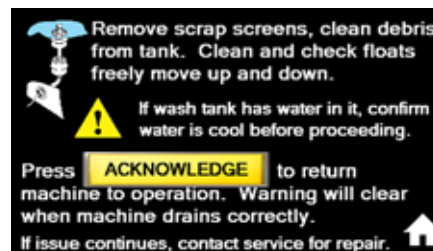

Fig. 100a - Follow instructions on screen
2. Press the blinking  icon and an instruction screen will appear. Follow the instructions and press ACKNOWLEDGE, (Fig. 100a).